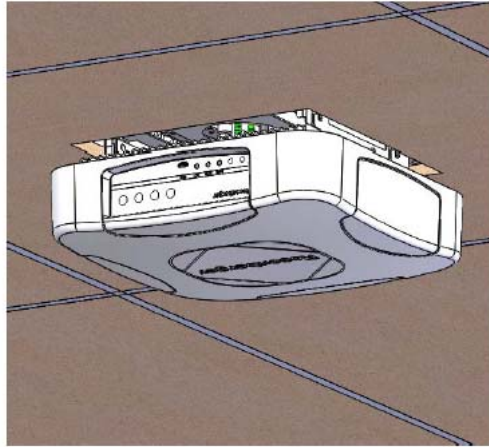

Figure 23
Step 5 The active module clamp on the bracket, as shown in figure 23.
5. Click **Save** and return to the **Create New Device** page, as shown in Figure 23.